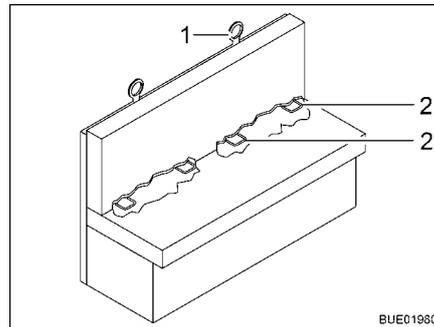

Fig. 23 ISOFIX child safety seat mounting system
If the vehicle is equipped with the ISOFIX child safety seat mounting system, the vehicle seats suitable for it are marked with the ISOFIX symbol. These vehicle seats have retaining brackets (Fig. 23,2) and another anchorage point at the top of the seat backrest (Top Tether) (Fig. 23,1). Use child restraint system suitable for ISOFIX. The child restraint systems possess connectors which are latched to the retaining brackets of the vehicle seat.
- If possible, fasten the child seat at the Top Tether (Fig. 23,1).